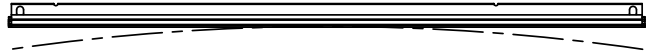

**Figure 20. Realigning Guide Rails**
2. Place a straight edge (i.e. carpenter's square) on the cutting table as shown in Figure 20.